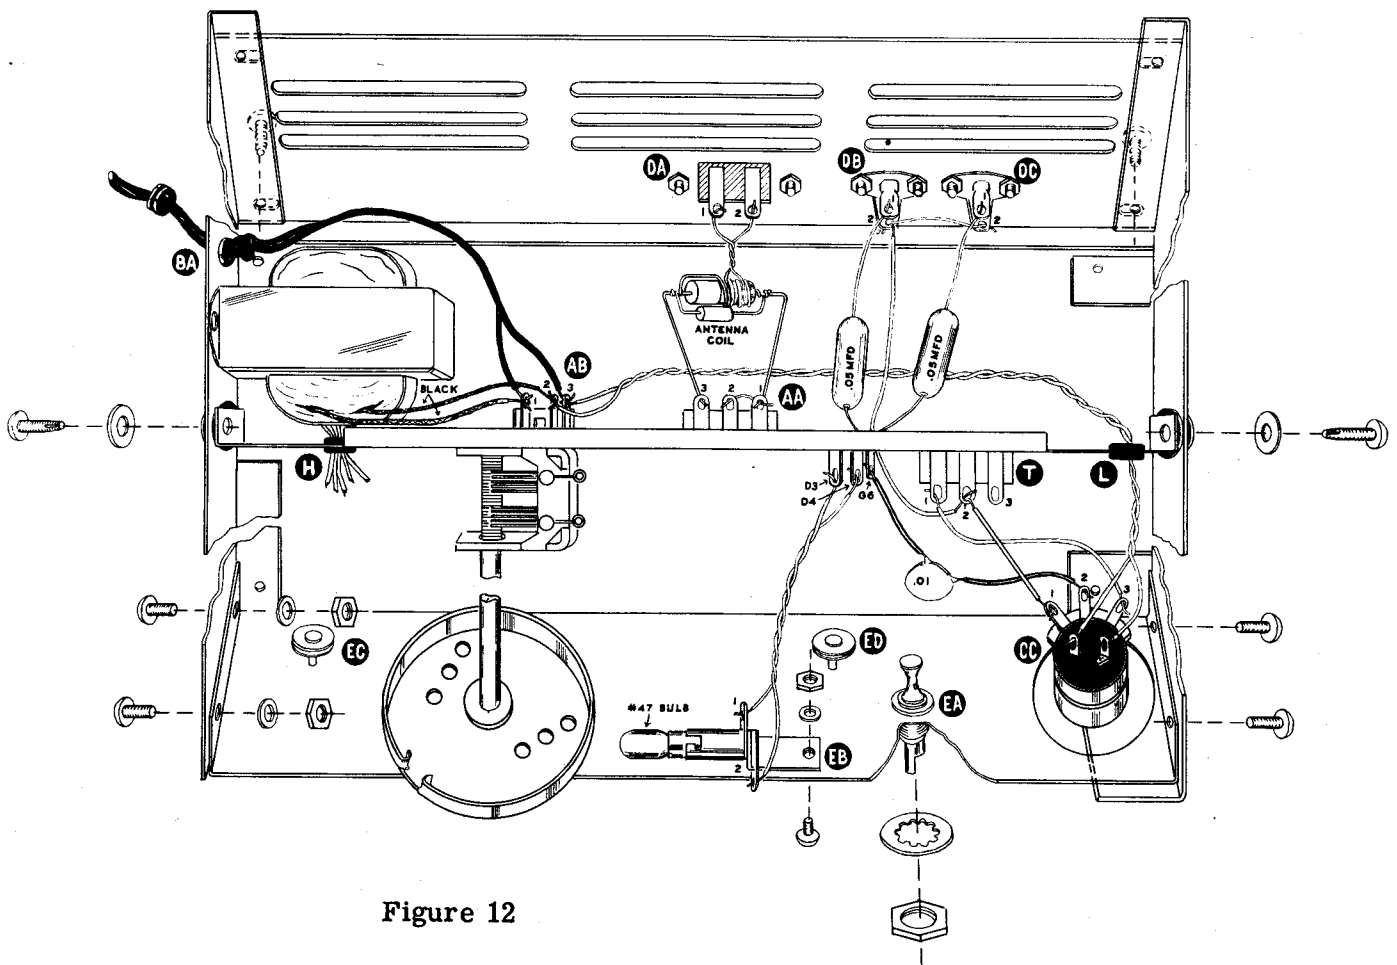
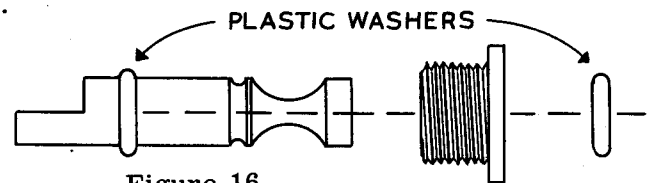

Figure 12
Figure 16
- (✓) Mount bracket B on the left or tuning condenser end of the chassis, with the transformer fitting over the chassis top as shown in Figure 12. Place a 9/16" washer on a 6-32 self-tapping screw and insert through the spacer previously installed in grommet BH. Line the screw up with the top chassis opening and secure the assembly. Before completely tightening the screw, start the second self-tapping screw and washer through the bottom opening BJ. Now tighten both screws.
- (✓) Install two 7/16" grommets in the large openings in the right hand bracket and insert the 3/16" metal spacers in each grommet. Install the bracket on the right hand end of the chassis in the same fashion. The large hole should be forward. See Figure 12.
- (✓) Place the red, red-yellow and green power transformer leads through grommet H on the chassis. Cut one green lead to length sufficient to reach socket A3, strip and tin the lead and connect it to A3 (NS).
- (✓) In the same fashion, connect the remaining green lead to socket A4 (S) (2).
- (✓) Similarly, connect the red-yellow lead to socket A3 (S) (3).
- (✓) Likewise, connect a red lead to socket A1 (S) (1). Dress over the socket to keep this lead above the chassis edge.
- (✓) In the same manner, connect the remaining red lead to socket A6 (S) (1).
- (✓) On top of the chassis, connect one black transformer lead to terminal strip AB1 (NS). See Pictorial 2.
- (✓) Connect the remaining black lead to terminal strip AB2 (NS).
(✓) Mount the dial plate as shown in Figure 12, with the calibration directly below the tuning condenser drum. Secure with 6-32 screws, lockwashers and nuts in the four foremost holes in the end brackets.
- (✓) Install the back plate with the bent flange to the bottom. Use 6-32 self-tapping screws in the bottom holes at each end only, as shown in Figure 12.
- (✓) Connect one of the twisted leads of the antenna coil to terminal strip DA1 (S) (1) and the remaining lead to DA2 (S) (1).
- (✓) Connect a bare wire from connector ground lug DB2 (NS) to connector ground lug DC2 (S) (1).
- (✓) Connect the insulated wire appearing through chassis grommet K to connector ground lug DB2 (S) (2).
- (✓) Connect the free lead of the .05  $\mu$ fd 400 volt condenser previously bent toward socket B to connector DB1 (S) (1).
- (✓) Connect the free lead of the remaining .05  $\mu$ fd 400 volt condenser to connector DC1 (S) (1).
- (✓) Assemble the dial drive shaft assembly as shown in Figure 16. Begin by pushing one of the plastic "O" washers on the shaft from the flatted end until it falls in place in the slot provided for it. Do not use tools with sharp edges to force the washer over the edge of the flat, for it is possible that the washer will be broken. After the first washer is in place, the shaft should be installed in the bushing in the direction shown in Figure 16 and the other plastic washer installed from the drive side of the shaft. A spare washer is furnished in case of accidental damage during installation.
- (✓) Mount the drive shaft assembly through the dial plate from the rear at location EA. Refer to Figure 12 and note that the bushing goes through the dial plate, a large lockwasher and a control nut. Tighten securely.